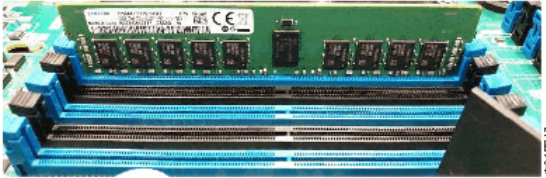

Figure 98. Installing the DIMM
13. Insert the DIMM into the connector by aligning the edges of the DIMM with the slots at the ends of the DIMM connector, as shown in Figure 98 on page 141.